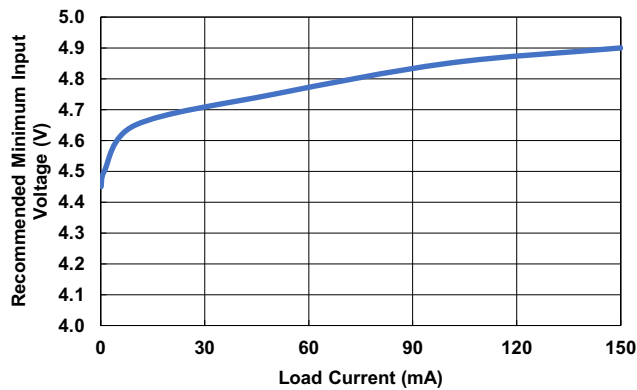

Figure 19. Recommended Minimum Input Voltage (V)
2. Minimum supply voltage at 150mA load. See Figure 19 for the minimum supply voltage at other loads.
The RAA214401 operates over a wide input voltage range up to 40V. Depending on the load current, the recommended minimum supply voltage can be found in Figure 19.